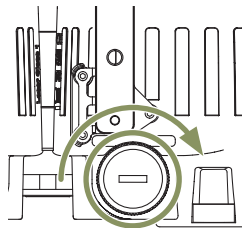

Fig. 6
3. Screw the battery case back on tight by turning it clockwise, see Fig. 6.